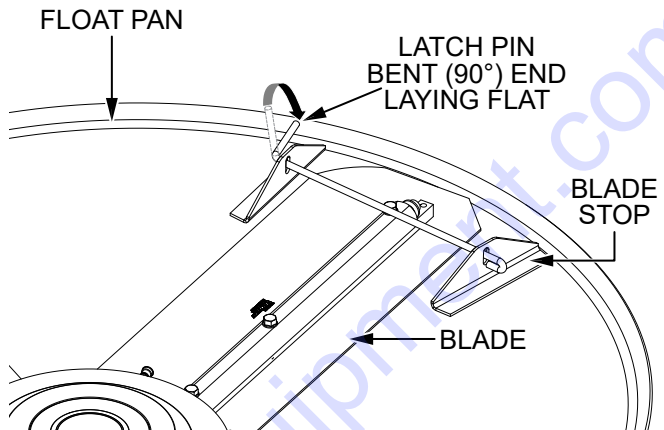

Figure 63. Latch Pin Placement
3. After it has been routed through the blade stop holes, rotate the latch pin so the end that is bent approximately 90 degrees lays flat on the surface of the float pan. See Figure 63.